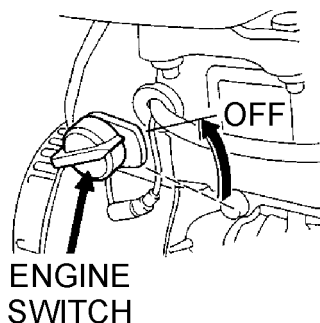

Figure 33. Engine ON/OFF Switch (OFF Position)
2. After the engine cools, turn the engine start/stop switch to the "OFF" position (Figure 33).